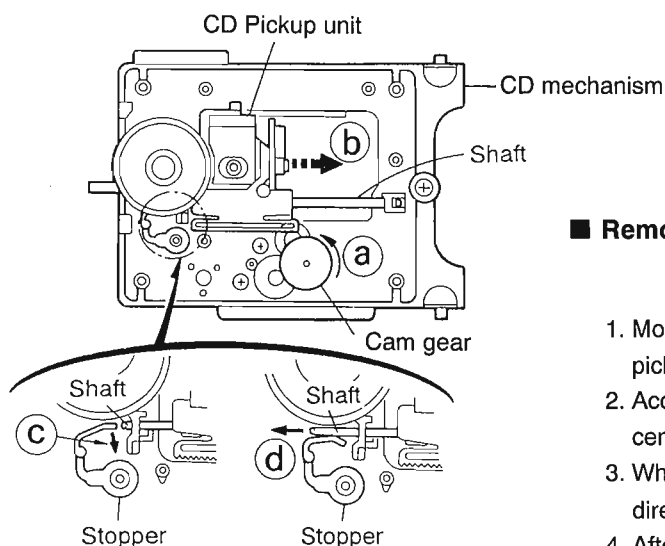

Fig.3-47
■ **Removing the CD pickup unit** (See Fig.3-47)
1. Move the cam gear in the arrow direction ③. Then, the CD pickup unit will be moved in the arrow direction ②.
3. While pressing the stopper retaining the shaft in the arrow direction ③, pull out the shaft in the arrow direction ④.